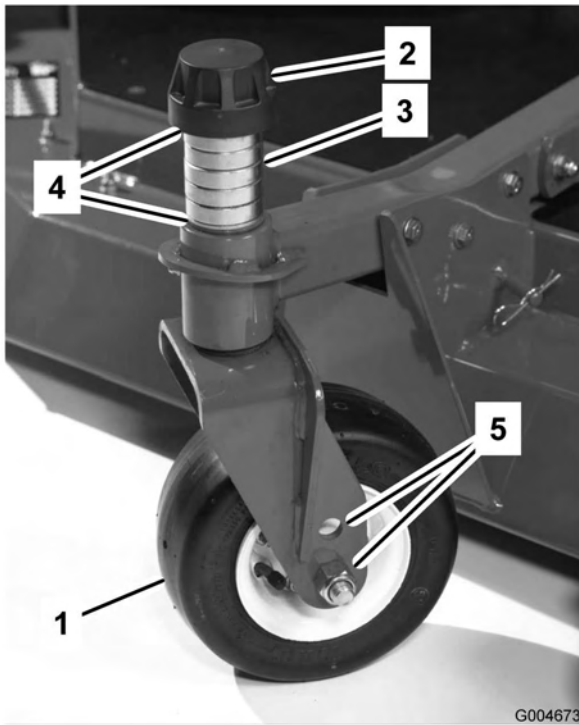

Figure 86
1. Remove the tensioning cap from the spindle shaft and slide the spindle out of the castor arm (Figure 86). Reposition the shims, as required, to raise or lower the castor wheel until the cutting unit has the correct pitch.